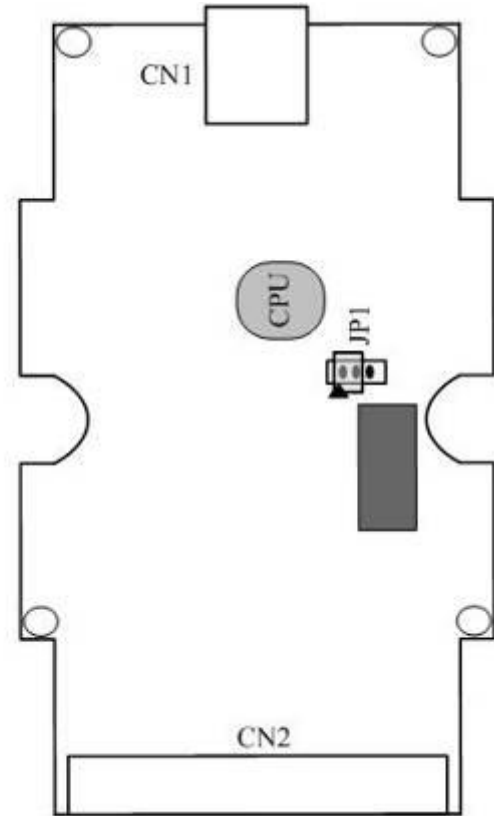

Figure 2-8: Firmware Updating
- (1) Set the jumper (JP1) to the firmware updating position like Figure 2-8 and reboot I-7567. Then I-7567 will work in the “Firmware Update Mode”. In this mode, users can update the firmware of I-7567 module via USB and the I-7567 will become a “USB Mass Storage” device like Figure 2-9.